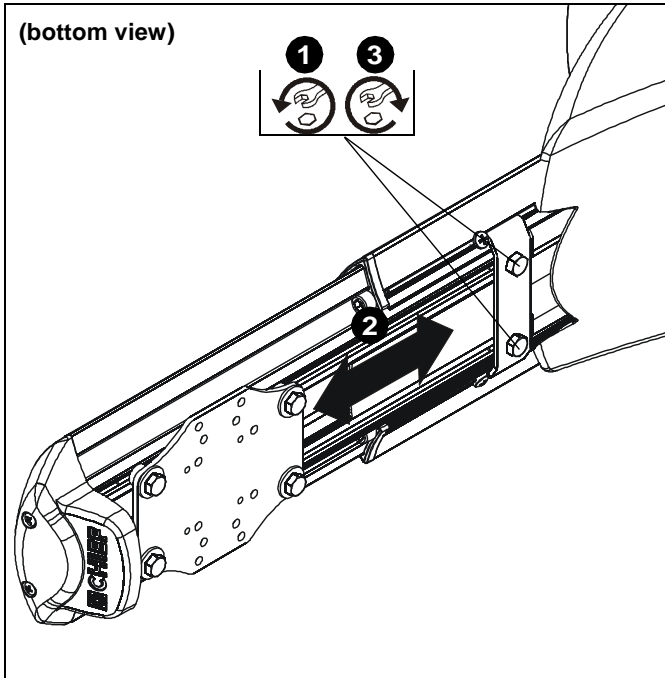

Figure 38
- Loosen two bolts holding stop bracket in place on underside of short throw projector mount. (See Figure 38)
- Tighten two bolts holding stop bracket to secure mount in desired position. (See Figure 38)